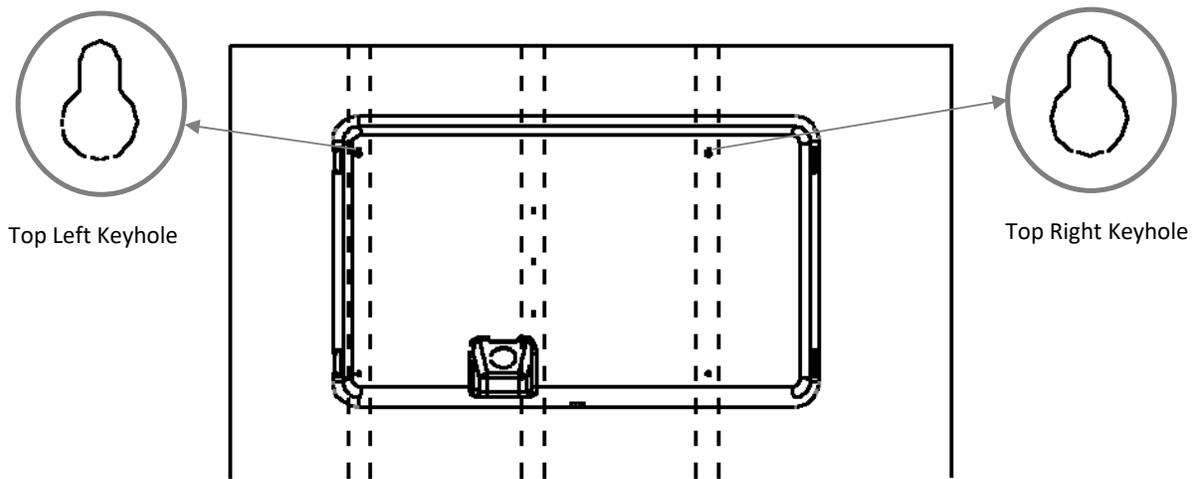

Figure 5
Storm Shell (for example, a 32" display), you may need to adjust the location of this mounting screw. This mounting screw will be placed in the top right keyhole of the Storm Shell Back – see Figure 5 below.
3. Lift the Storm Shell Back to the wall and position the S7 screw head (Step 2) into the top right keyhole (Figure 5). Place a bubble level on top of the Storm Shell Back and rotate until the Storm Shell Back is Level. Place a mark on the wall through the top left keyhole. Make sure to mark the top left key hole at the center of the top (where the screw will rest). Remove the Storm Shell Back from the wall and check to ensure that the mark for the top left keyhole is centered on a stud. Repeat the procedure in Step 2 to drill and screw an S7 screw for the top left keyhole. Mount the Storm Shell Back on the wall using the mounted screws and the top left and right keyholes. Check that the Storm Shell Back is level using the bubble level.